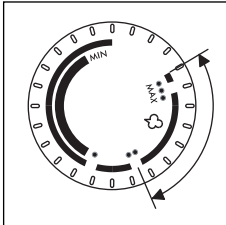

fig. 5
- Position the thermostat dial on the iron handset within the steam area indicated in fig 5. (remember to test fabrics first if unsure of the temperature to iron them at). The thermostat dial should be positioned according to the type of fabric to be ironed: